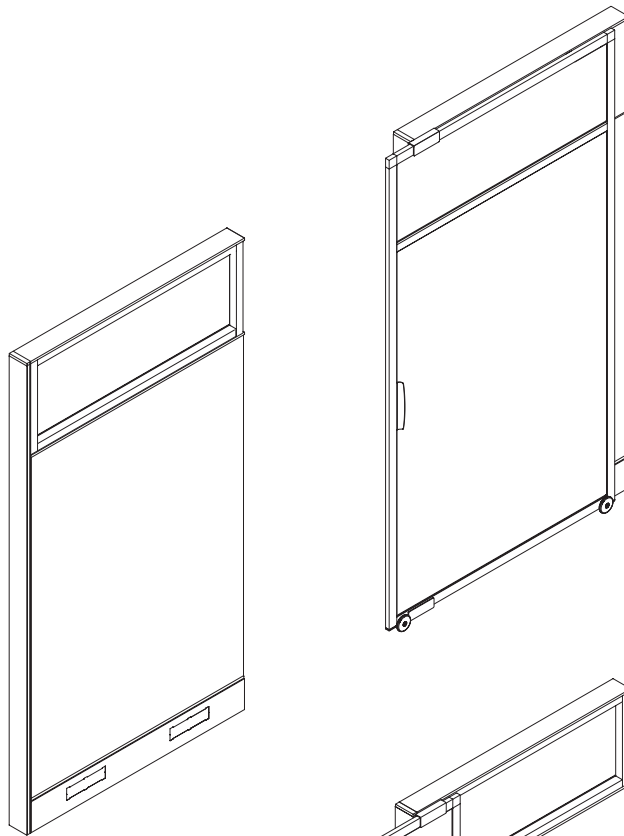

Figure 7
1. Illustrated on this page is a 180° inline no jamb rolling door configuration. The closed rolling door overlaps the adjoining inline panel by approximately 1.5" (Figure 7 & 8).